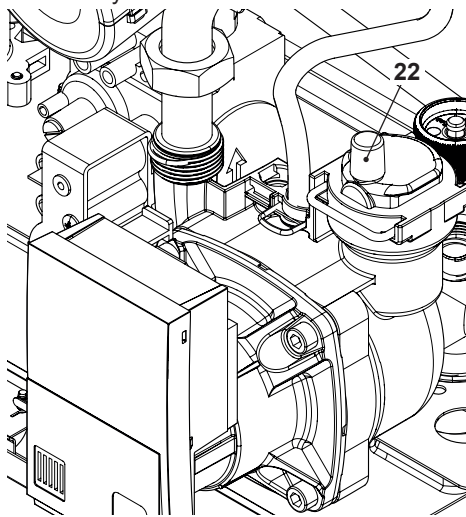

Fig. 7.2
- Loosen the cap on the automatic air purger valve 22 in Fig. 7.2 and leave open permanently.